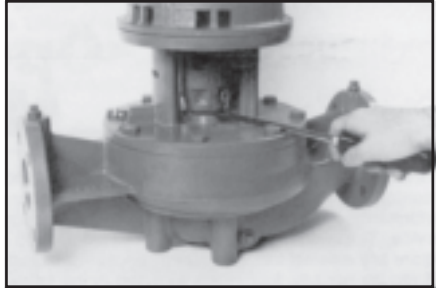

Figure 5
- Using a large screwdriver, raise the pump shaft by placing the tip of the screwdriver under the screwdriver and carefully elevating the coupling to its highest point. Note: The shaft can only be raised approximately 0.20 inches (5mm). See Figure 5.